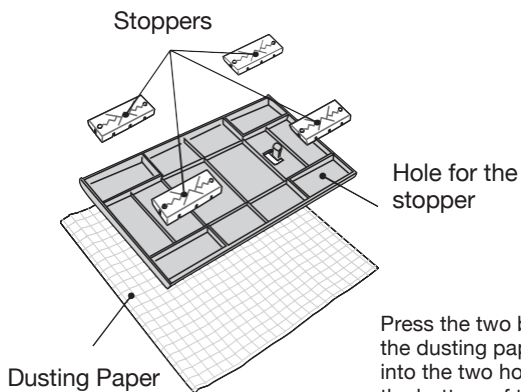

Fig. 5
2. Flat the dusting paper and put it on the floor or table. Then place the holder (the side with 4 stoppers face up) on the paper at the midpoint as shown in Fig. 5.